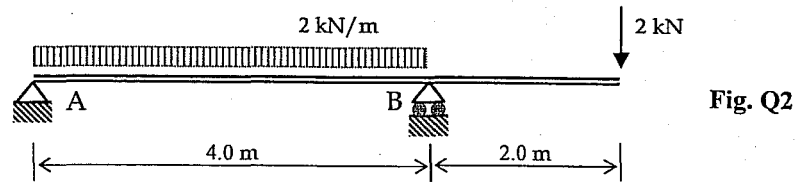

Fig. Q2
- Q2. Consider the over hanging beam carrying uniformly distributed load of 2kN/m and a point load of 2kN as shown in Fig.Q2.